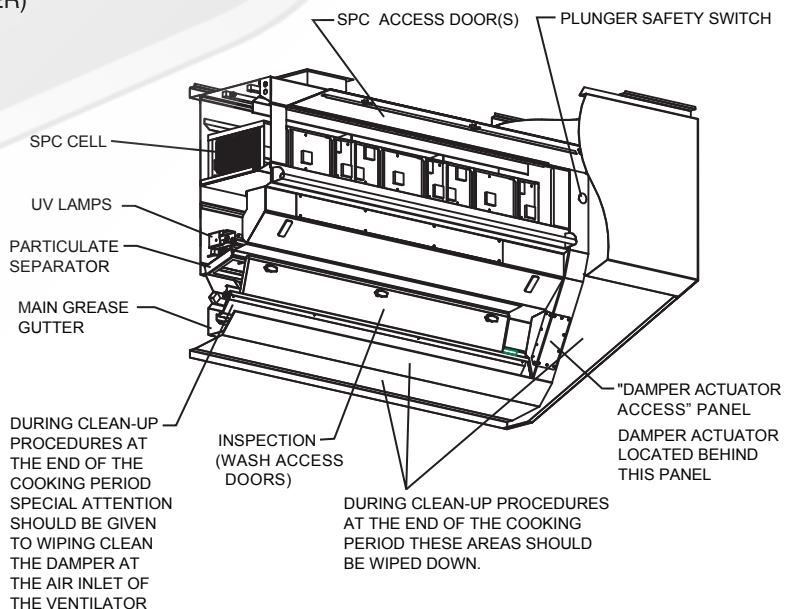

FIG. 7
After the wash cycle is completed, wipe the exposed front surface of the damper at the air inlet slot, as well as other exposed exterior surfaces. (Refer to Figure 7, Page 11).
2. At least monthly, at the conclusion of a wash cycle, open the inspection doors of the ventilator and check to ensure that the interior has been cleaned of grease, dust, and lint. (Refer to Figure 7) If overall cleaning appears to be inadequate, refer to "Troubleshooting of the Wash System", Page 29.